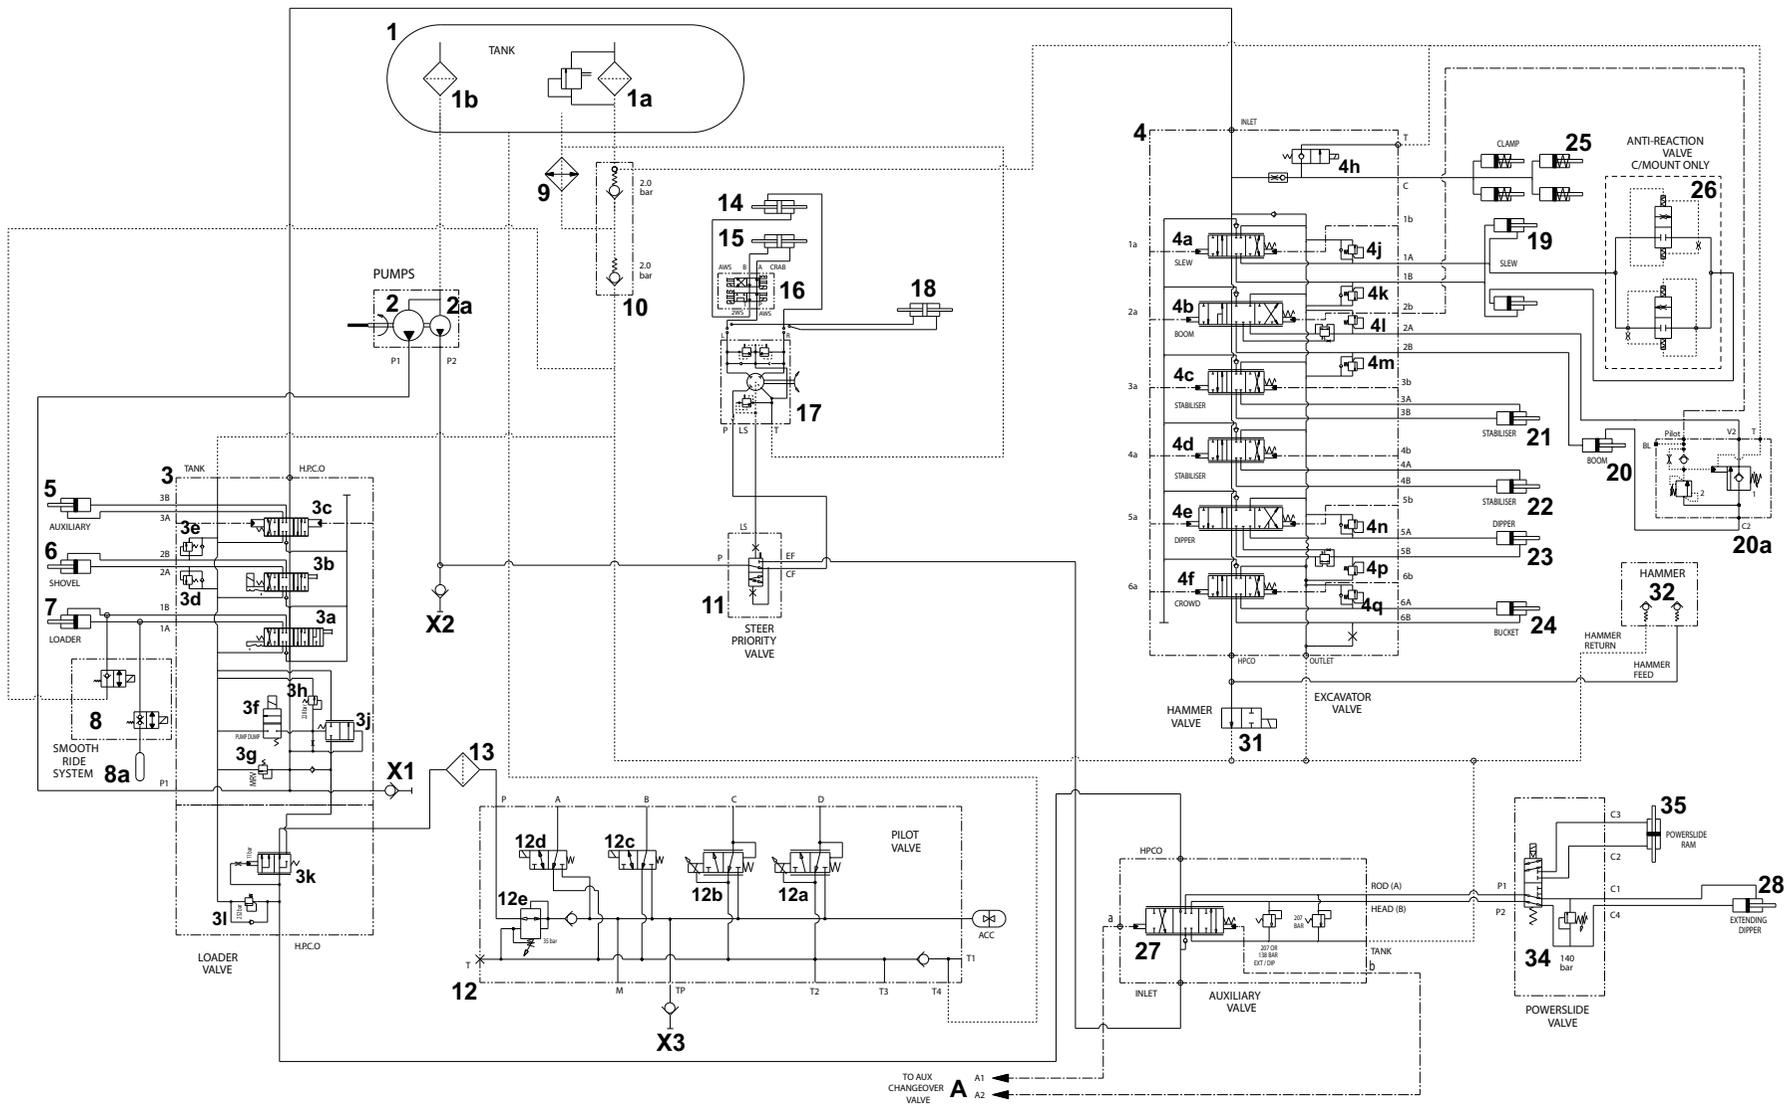

Fig 15. Main Circuit, Sheet 1 of 4
⇒ Fig 15. (□ L-121)
- A From A ⇒ Fig 15. \(□ L-121\)